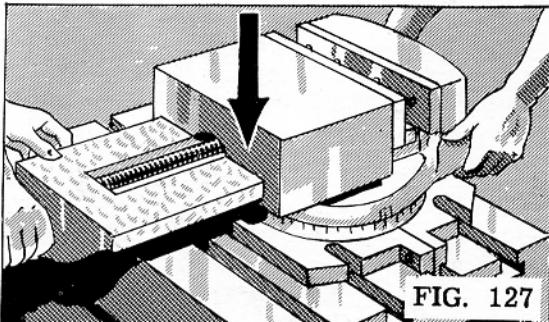

FIG. 127
3. Place the vise, with base attached, on the table with the graduations toward the front (Fig. 127).